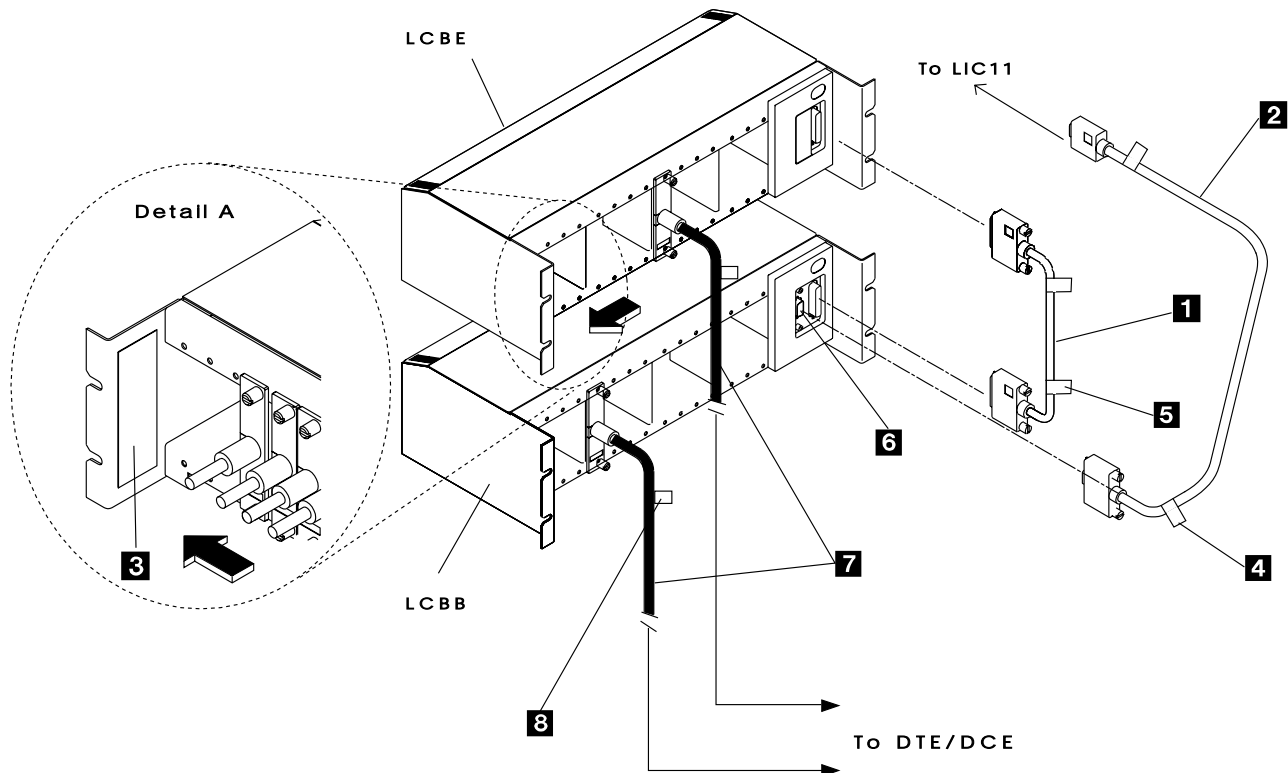

Figure 8-7. LCBB and LCBE Connection
2. \_\_\_\_ Start **installing** the LCBs **from the bottom** of the rack. The LCBE is always installed on top of its associated LCBB (see Figure 8-7).
5. \_\_\_\_ **Stick** the label on the LCB (see detail A **3** in Figure 8-7).
6. \_\_\_\_ If you have installed one LCBB and one LCBE, **install** cable **1** (PN 58G5700) between the LCBB and the LCBE. This cable is part of the LCBE shipping group (see cable **1** in Figure 8-7 on page 8-9).
Install the LIC11-to-LCBB cables (see cable **2** in Figure 8-7 on page 8-9) as follows: